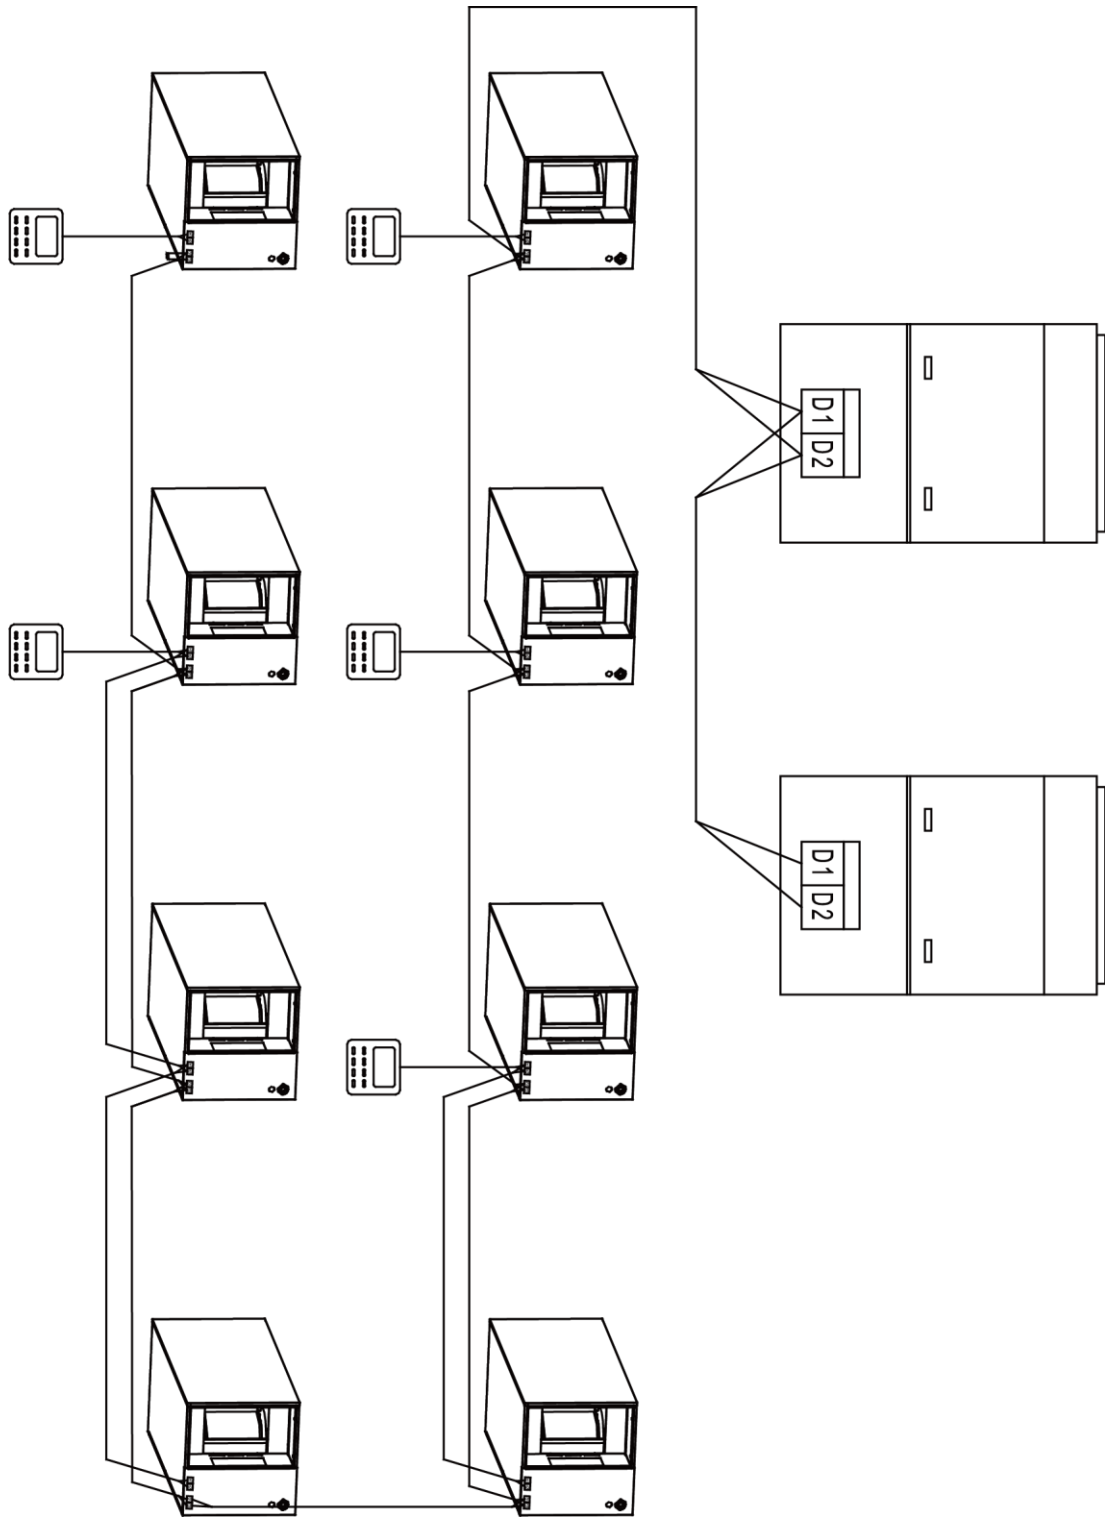

Fig 5.5
- (1) Communication wire of indoor unit and outdoor unit (or indoor unit) is connected to D1, D2.
- (2) Wired controller is connected to H1, H2.
- (3) One indoor unit can connect two wired controllers that must be set as master one and slave one.
- (4) One wired controller can control 16 indoor unitS in maximum at the same time (As shown in fig5.5).